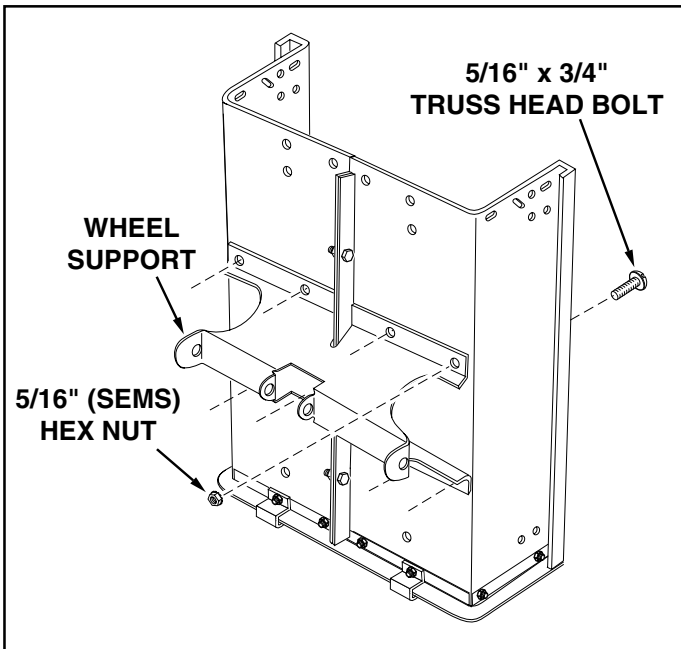

FIGURE 4
7. Assemble the wheel support to the bottom of the cart using eight 5/16" x 3/4" truss head bolts and 5/16" (SEMS) hex nuts as shown in figure 4. Heads of bolts go on the inside of cart. **Tighten.**